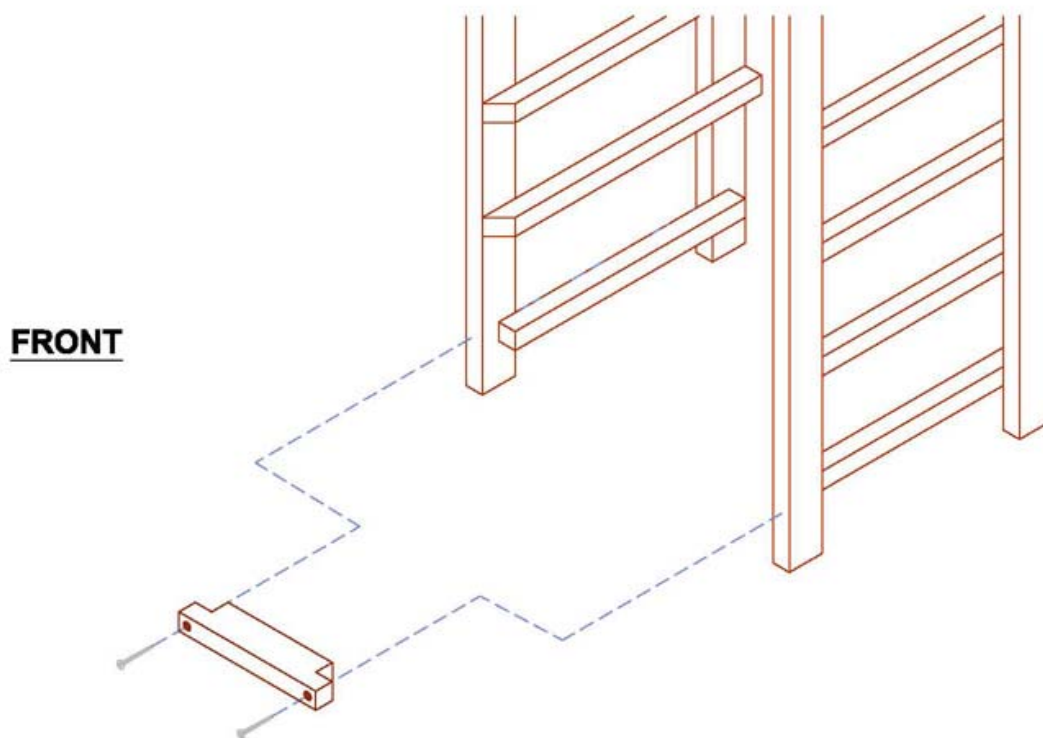

Figure 1
2. Set your ladder with the back on the floor (angled slats facing up). Then insert the spacer bar by placing the two rabbets (or slots), at each end of the spacer bar, over the ladder upright at the spacer slat location (**Figure 1**).